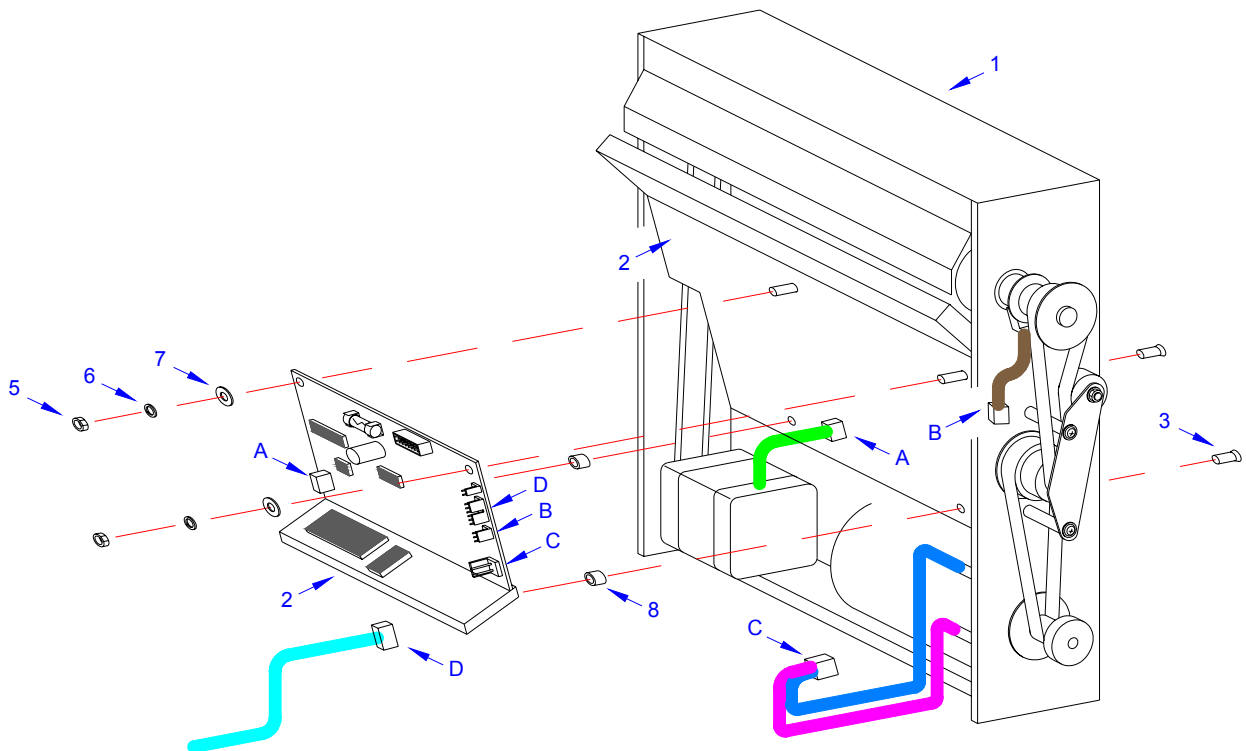

Figure 7-24, Cutter Circuit Board Replacement
- 2 Remove cutter assembly (1, Figure 7-24) from the printer.
- 3 Disconnect all wiring harnesses from circuit board (2).
- 4 Remove two screws (3) from paper guide plate (4).